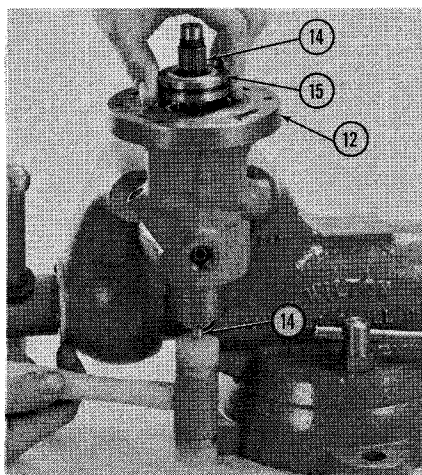
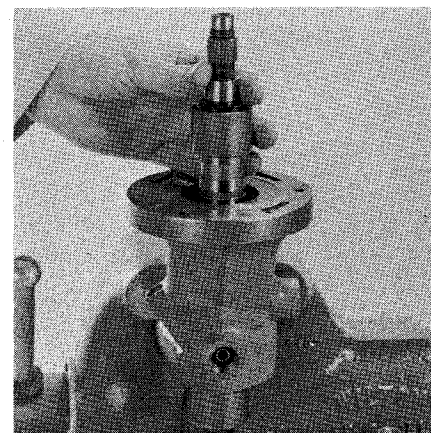

Fig. 19—Tap on outer end of actuator shaft (14) to bump bearing support (15) from the housing (12).
Fig. 21—Removing the actuator shaft assembly from housing. Be careful not to cock control valve spool in bore of housing.
of shaft with soft faced mallet as shown in Fig. 19 until bearing support (15) can be removed, then carefully remove the actuator shaft assembly from housing as shown in Fig. 21.